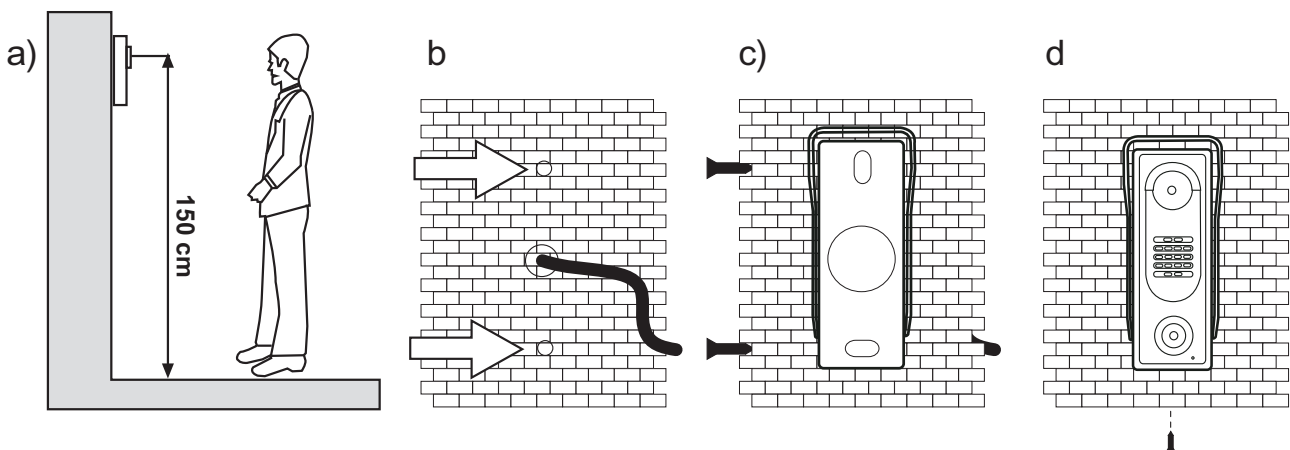
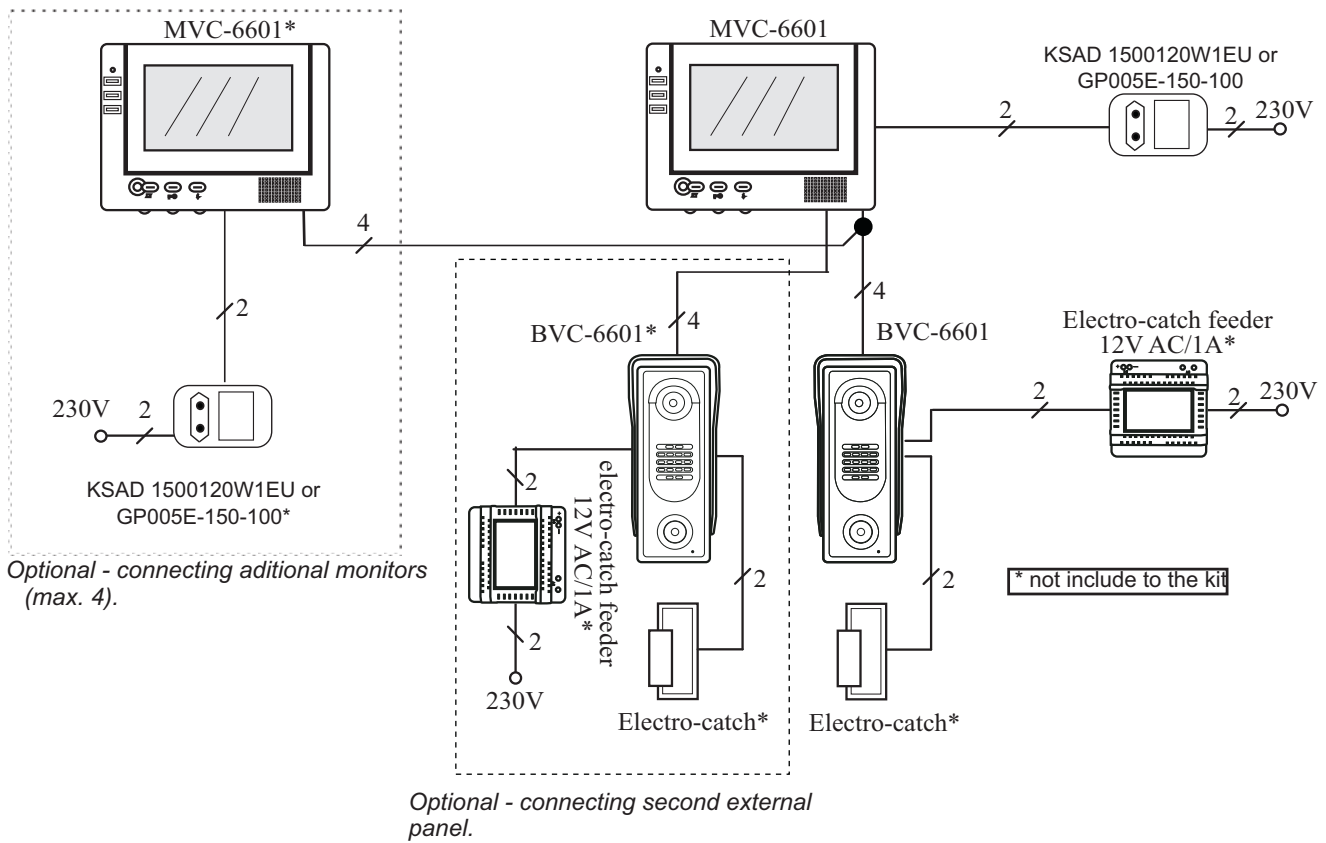

fig 5. Outdoor panel instalation
Figure 6. Connection of Draco II video door phone - single line diagram.
- Connect the wires according the diagram (see Fig. 6, 7, 8 and 9). As shown in Fig. 5, the wires should be connected to the outdoor panel with snap-on connectors (see Fig. 4). Place the panel against the hood and secure it with the mounting screw (Fig. 5D).
Install the door release in the gate or the entrance door according to the manufacturer's recommendations. Then proceed to connect the wires in the outdoor panel (two black wires), power adapter wires and the door release, as shown in the connection diagram (see Figures 6, 7, 8 and 9).